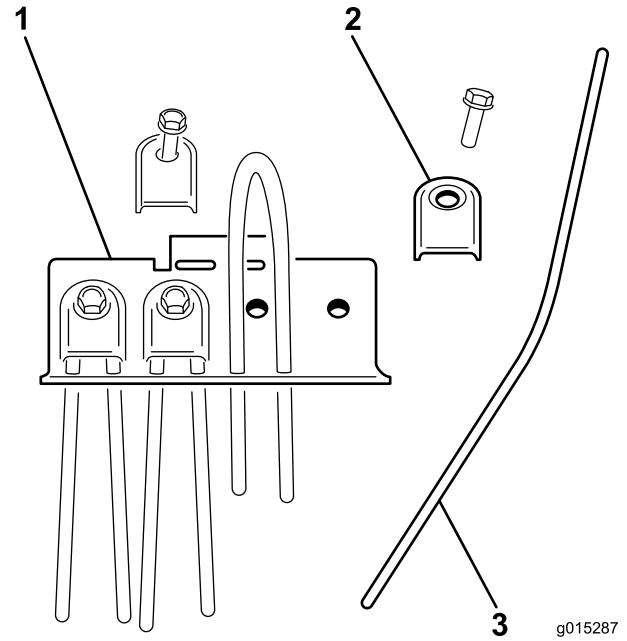

Figure 28
1. Remove the tine retainer and slide the damaged tine out (Figure 28).